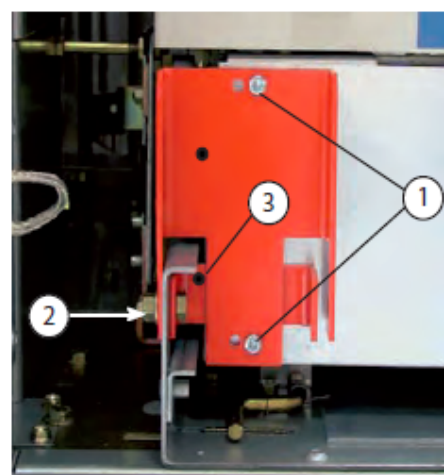

Figure 29
1. Release the two bolts (Figure 29, 1).
2. Release lock bolts M8 x 25 (2).
3. Remove transport lock (3).
4. Reinsert the two bolts (1).